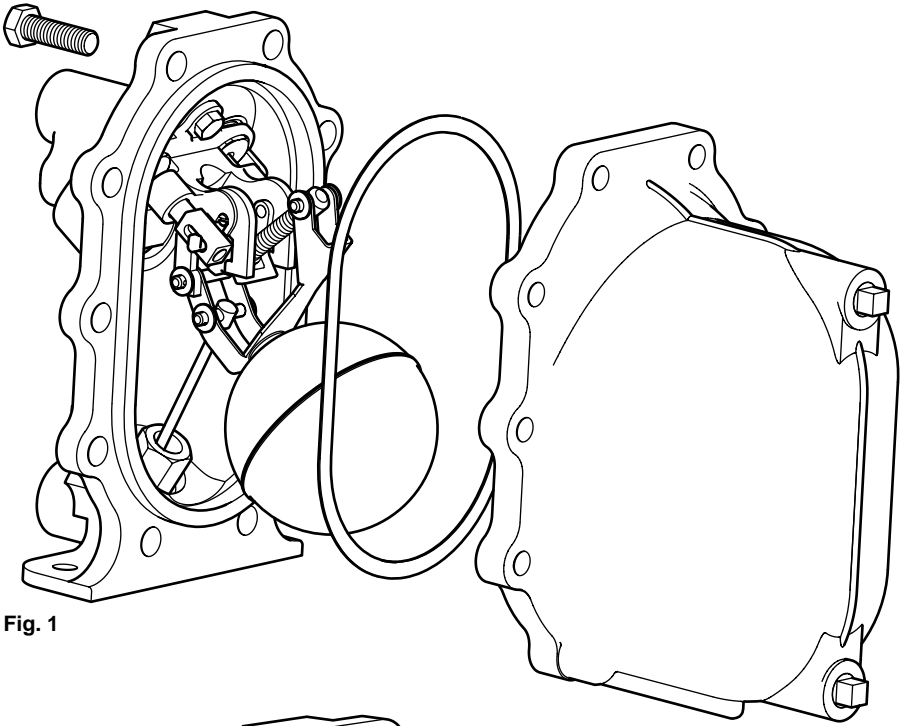

Fig. 1
1. Disconnect all connections to the cover. Remove the cover bolts using a 19 mm A/F socket, then carefully slide the cover assembly away from the body (225 mm minimum withdrawal distance will be needed). Lift the cover assembly to a bench or other convenient working surface and clamp securely, avoiding contact with the gasket face (See Fig. 1).